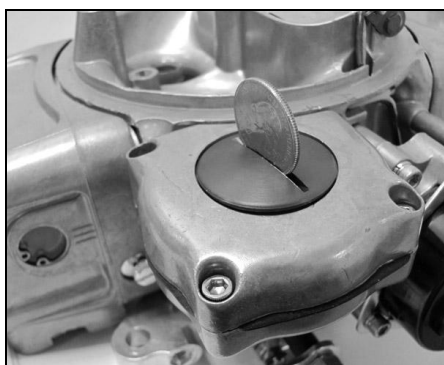

Figure 20
1. Using a wide bladed screwdriver or a coin (Fig. 20), remove the billet disk (color may vary from picture) from the center of the pod lid. Once the disk is loose, lift the disk from the pod lid and remove the spring.